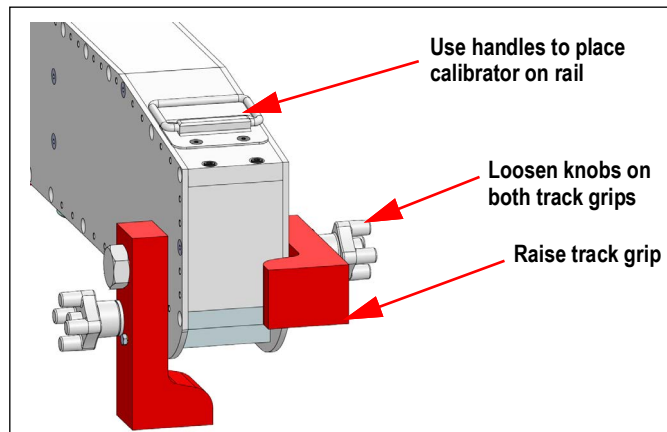

Figure 5-1. RailBoss Calibrator Track Grips
1. Ensure track grips are arranged as shown in Figure 5-1 prior to placing the RailBoss Calibrator on the track.